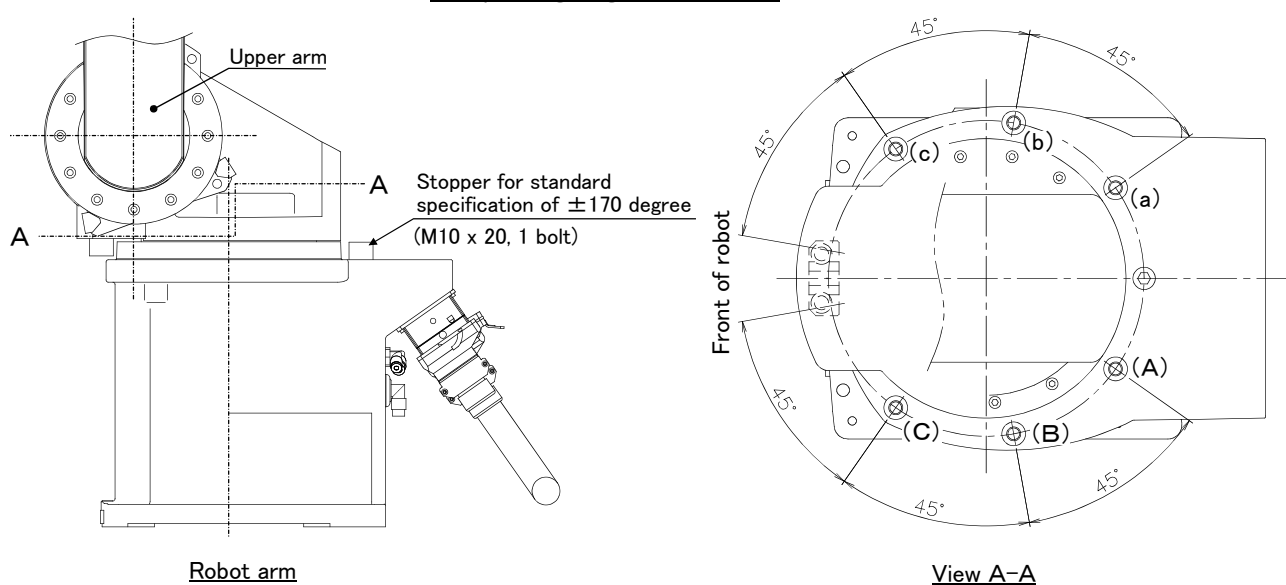

Fig.3-6 : Installation of operating range change option
Note) The insertion position given in the table indicates the insertion position for the operating range change stopper. (Refer to Fig. 3-6.)
- 1) Move the upper arm to the posture as shown in Fig. 3-6 by jog operation.
- 3) By referring to Table 3-2 and Fig. 3-6, insert the two stoppers (M10 x 20) used to change the movement range of J1 axis at the angular position to be changed, and fix securely by applying a clamping torque of 70 to 86 N · m.
**CAUTION** Do not remove the stopper for the standard specification of  $\pm 170$  degree shown in Fig. 3-6.